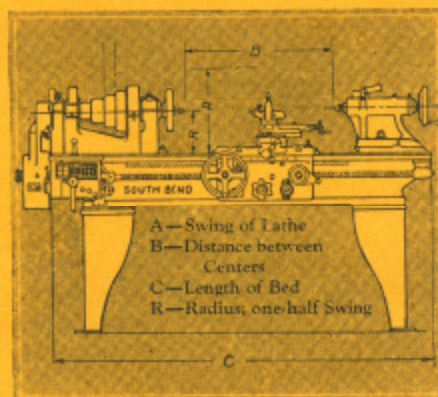

Fig. 2. How to Determine Size of Lathe.
3. **Size of Lathe.** To find the size of your lathe, measure the distance from the point of the headstock center to the top of the inside rear "V" of the lathe bed. This will give the radius; double this figure and you have the swing or the size of your lathe. See Fig. 2 below.